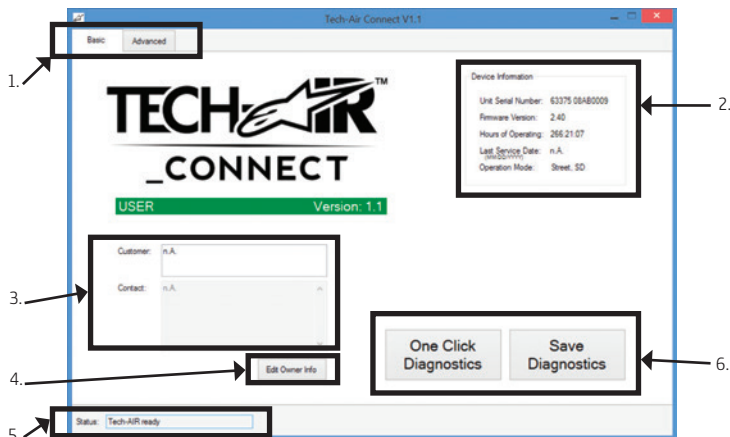

Figure 11 – Tech-Air™ Connect Main Screen
3. Run the Tech-Air™ Connect software. This will present you with the screen in Figure 11.